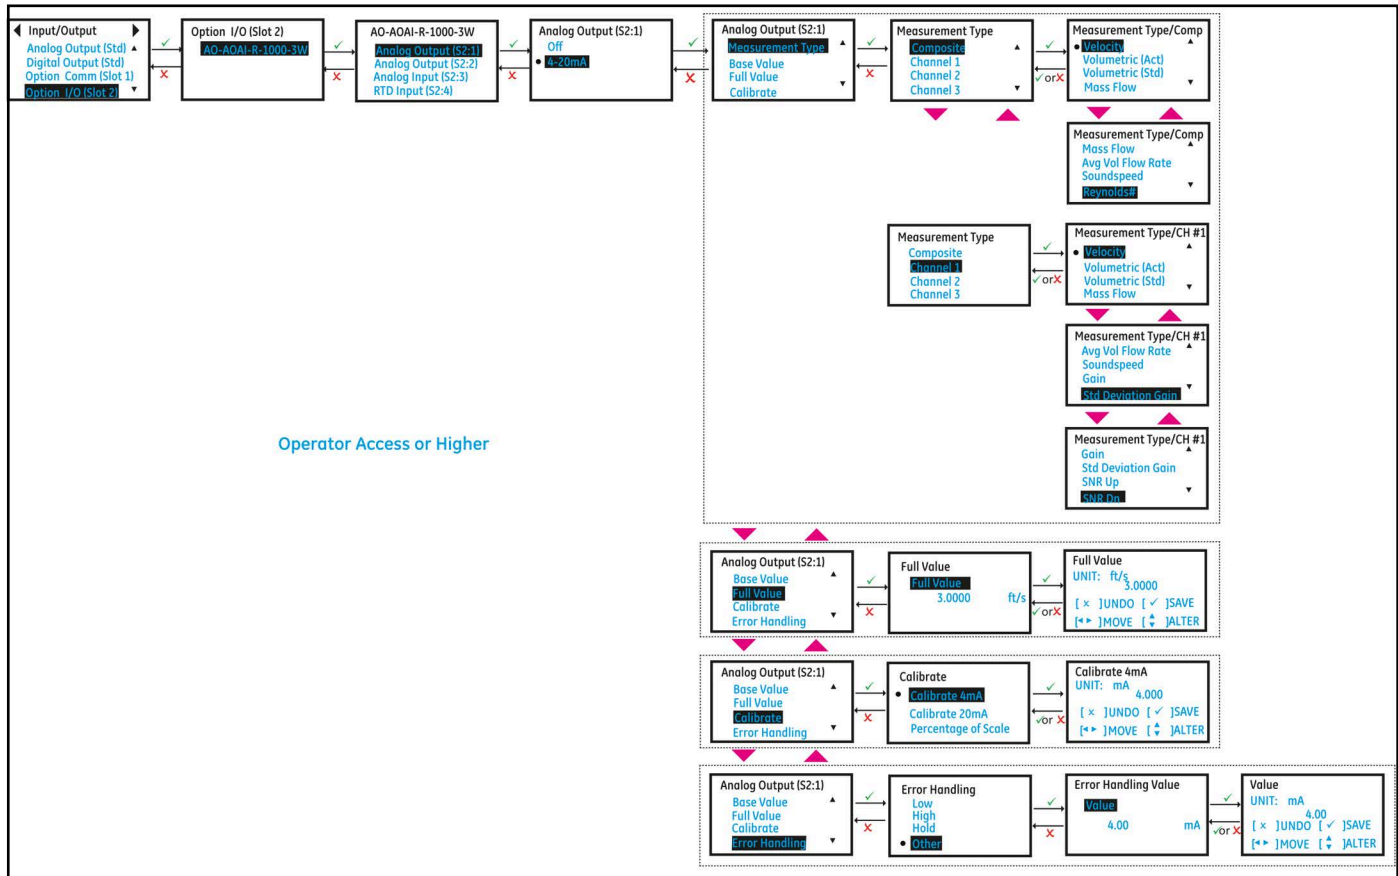

Figure 37: Setting up Option I/O Analog Output
4. If you are connecting an Analog Output, choose 4-20mA option. *Figure 37* below, shows the options available.